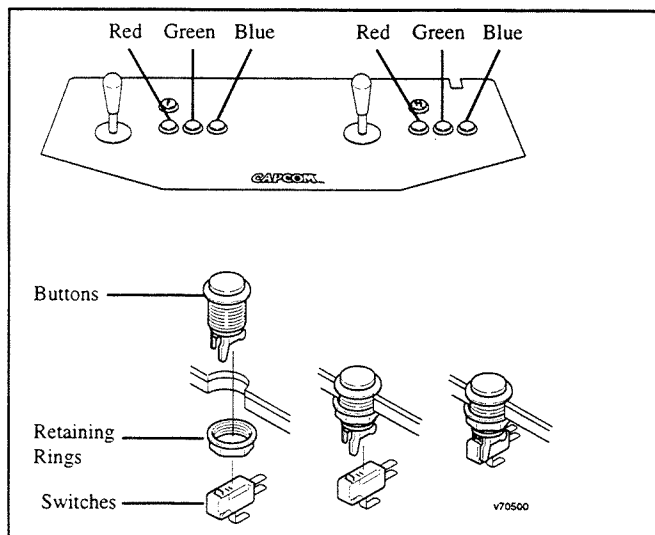

FIGURE 2
15. Install all buttons and retaining rings on the control panel as shown in Figure 2. Install a RED button to the immediate right of each joystick, install a GREEN button to the right of the red one, and install a BLUE button to the right of the green one. All remaining holes should be capped with a button plug or doweled and sanded smooth.
17. Install the switches on the buttons as shown in Figure 2. Orient the switches so that when a button is pressed, the red contact on the switch is depressed.